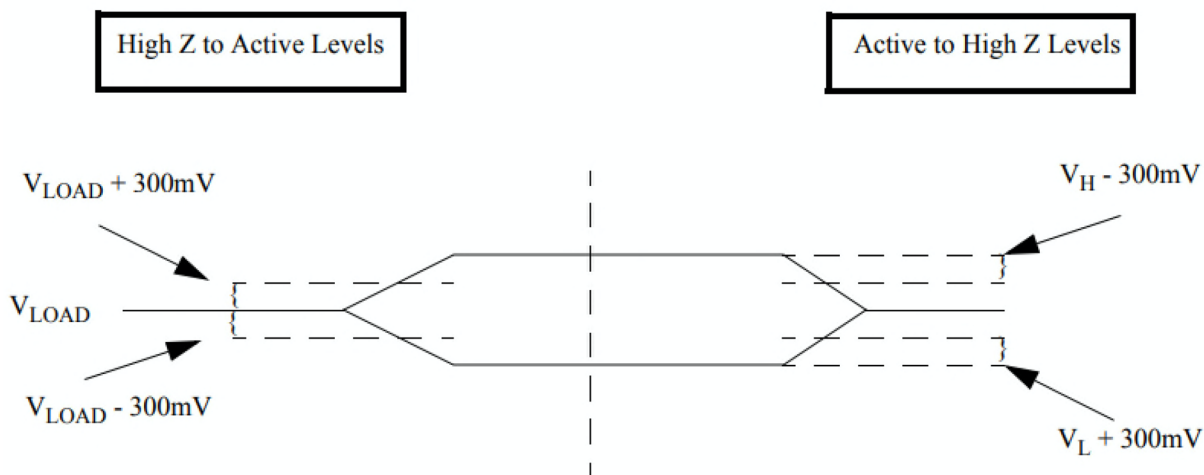

Figure 3. 3.3-Volt SRAM Loading
- 2) Three-state is defined as a 300mV change from steady-state output voltage (see Figure 3).
- 2) Three-state is defined as 300mV change from steady-state output voltage (see Figure 3).